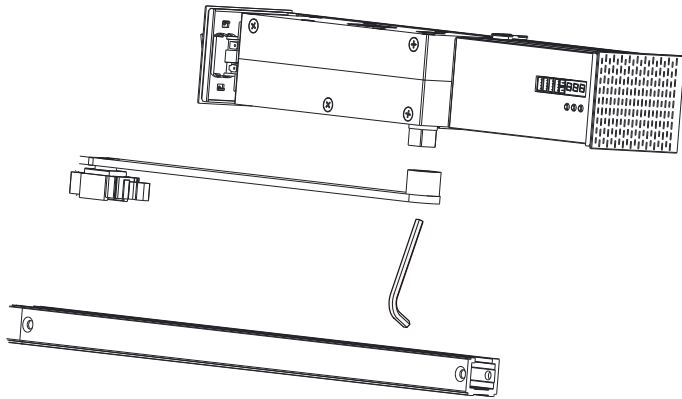

Figure 3
Step 3: fix the support arm on the door opener with hexagon socket, and pass the slide rail through the slider on the support arm, as shown in Figure 3.